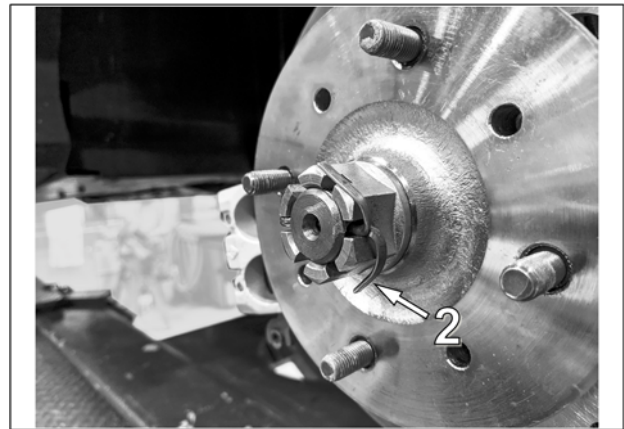

Fig. 9
CAUTION: Make sure that the wheel hub's castle nut cotter pin (2) does not interfere with the track system hub. See Fig. 9